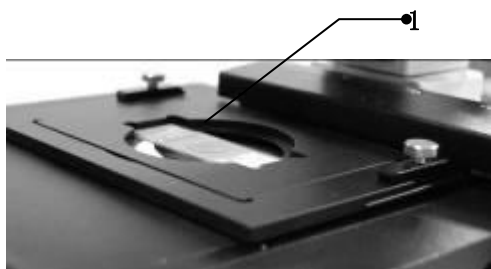

Figure 06
1) To observe the specimen on the slide, put the slide on the dish board directly. To observe culture tissue in the dish, change the board according to the size of the dish.(Refer to the specification figure) See Figure 06.